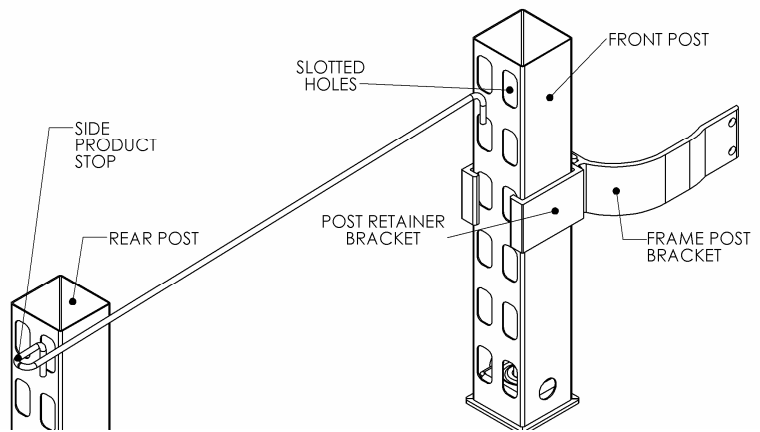

Figure 8: Side Product Stop
- b. Install side product stops (as required). Insert right angle ends of product stops into front and rear post slots. Refer to Figure 8,